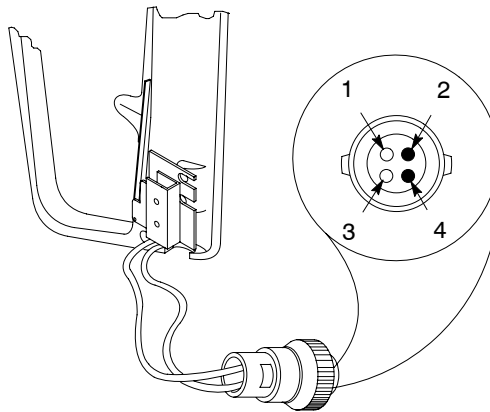

Figure 45 Check for Proper Electrical Continuity
6. See Figure 45. Set the ohmmeter at X1 scale and attach wires to pins 2 and 4 to test for proper electrical continuity.